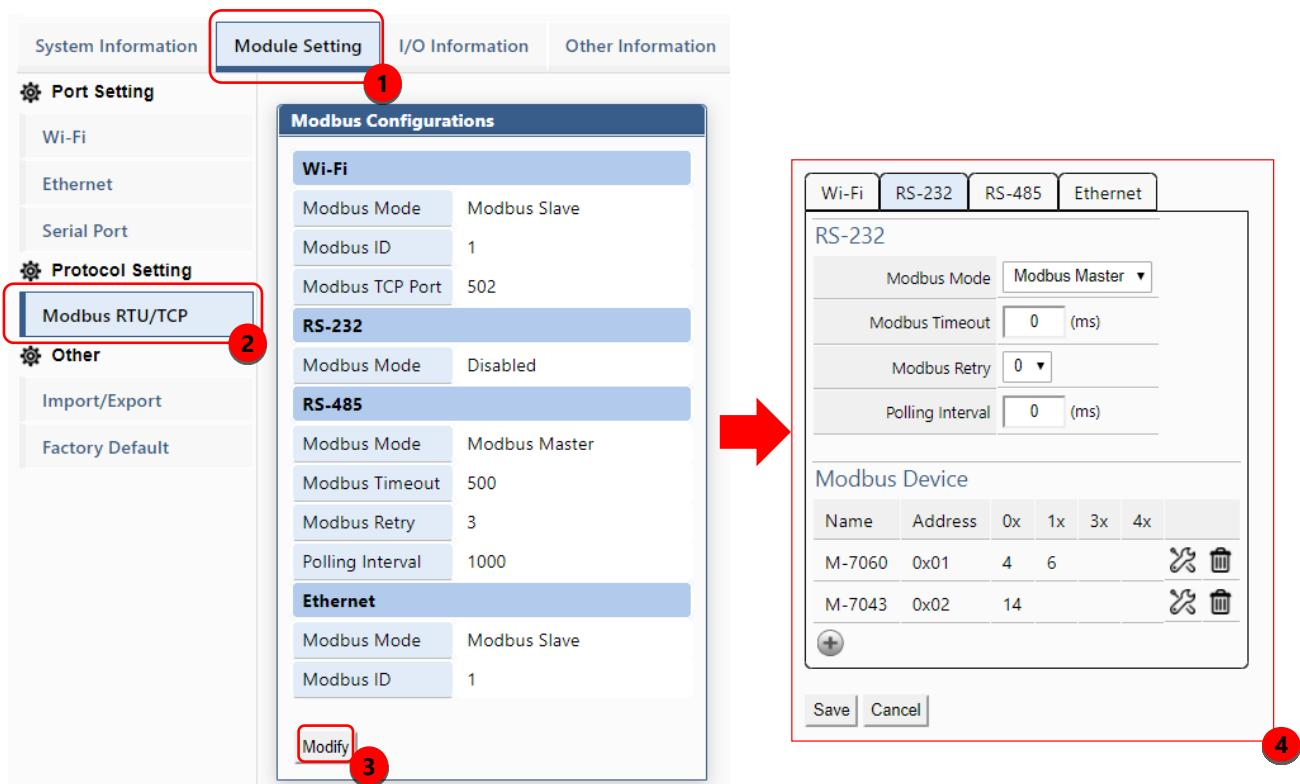

Figure 2.9 Steps to switch to the Modbus protocol configuration page
Click "Module Setting" → "Modbus RTU/TCP", to read the current setting parameters of the Modbus RTU/TCP protocol for each communication interface, if user want to modify these configurations, click the "Modify" button to switch to the configuration page, as shown in Figure 2.9.
**Step1** After setting the protocol to Modbus Master (refer to Figure 2.9), click the icon "  " at the bottom of "Modbus Device" to add a Modbus RTU Slave device and give the module name (up to 12 ASCII characters) and Modbus address (the Slave station number (1~255) of the Modbus RTU).